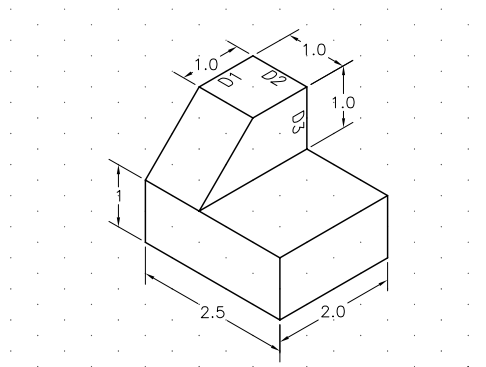
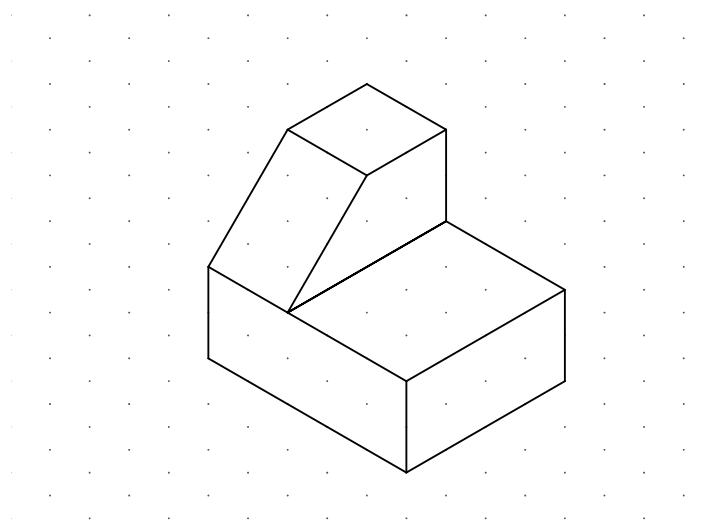

Figure 24-8 Isometric drawing for Example 1
Figure 24-13 *Isometric drawing with the tapered face*
In this example, you will create the isometric drawing shown in Figure 24-8.
6. The front left end of the object is tapered at an angle. In isometric drawings, oblique surfaces (surfaces at an angle to the isometric axis) cannot be drawn like other lines. Make sure that the Endpoint Object Snap is on, and then locate the endpoints of the lines that define the oblique surface. Next, draw the lines between those points. To complete the drawing shown in Figure 24-8, draw a line from P10 to P8 and from P11 to P4, refer to Figure 24-13.